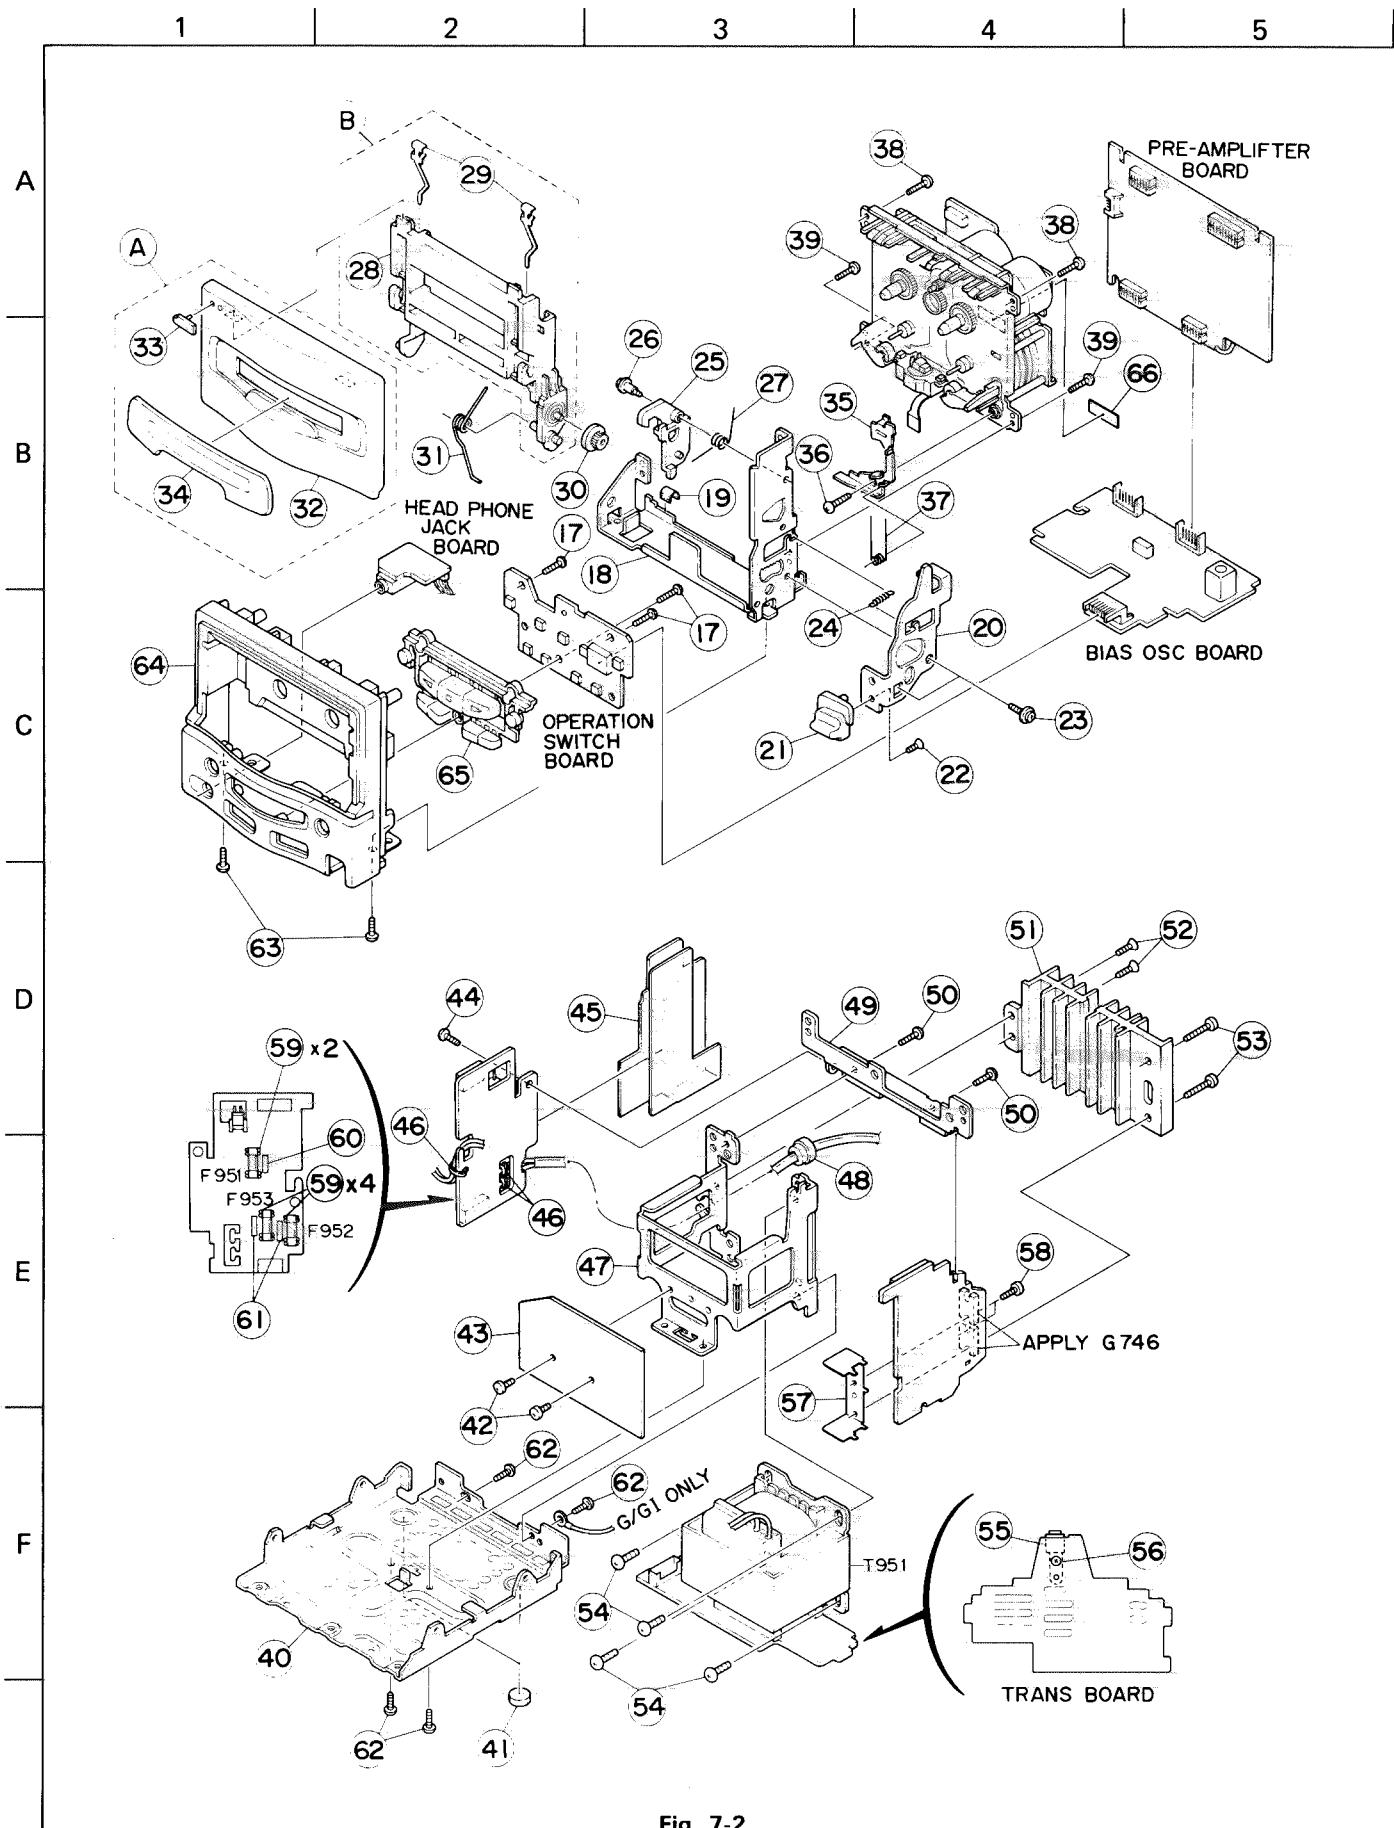

Fig. 7-2
- **Cassette Mechanism (Fig. 7-2, 3)**
2. Remove the four screws (38) × 2 and (39) × 2 retaining the cassette mechanism from the front panel ass'y.
- **Headphone Jack P.C. Board (Fig. 7-2, 3)**
• **Operation Key Switch P.C. Board and Front Panel (Fig. 7-2, 4)**
• **Power Supply Transformer (Fig. 7-2, 5~7)**
1. Remove the four screws (65) x 2 and (62) x 2 retaining the bottom cover and power supply unit.
2. Remove the four screws (52) x 2 and (53) x 2 retaining the heat sink from the transformer bracket and dismount the power amplifier P.C. board.
9. Unsolder the four solderings (C).